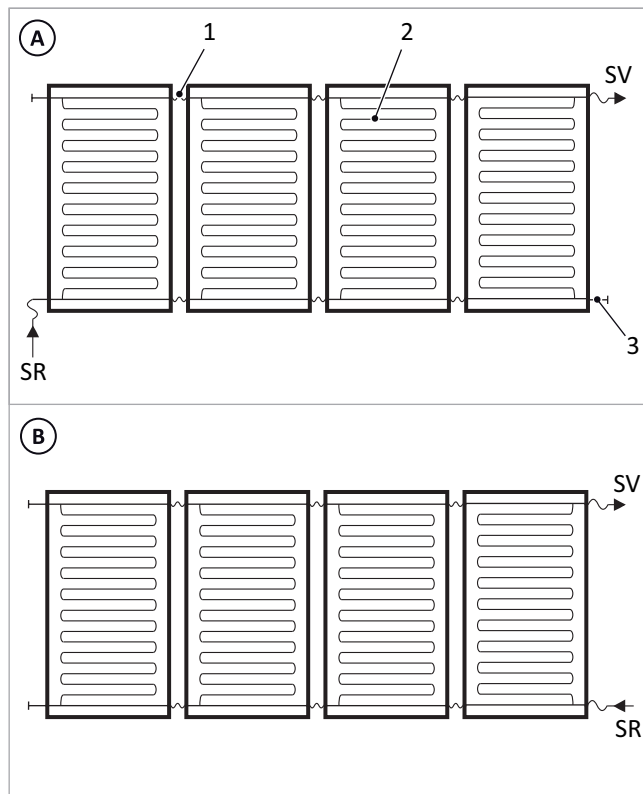

Fig. 9: Alternating connection for 1-9 collectors (A), single-sided connection for collector arrays of up to 6 collectors (B)
Collectors installed in a row are automatically connected in parallel with the distribution meander, whereby rows of up to 9 collectors are possible. The connection is preferably diagonal: bottom right - top left or bottom left - top right → Fig. 9 (A). The unused connections are sealed with dummy plugs.
With a maximum of 6 collectors, a one-sided connection is possible → Fig. 9 (B).
- Observe the orientation of the first and last collector in a row! The long side marked with a note must always face outwards (see → Fig. 9 (A) and Fig. 10). To do this, turn the collector by 180° if necessary. For collectors mounted within a row, the orientation is optional.